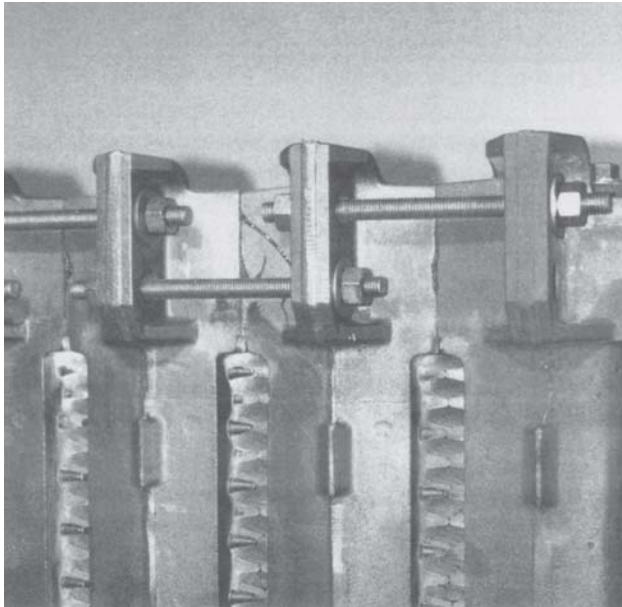

Figure 9: Draw-Up Rods (Alternating Pattern - Manual Draw-up)
- l. The large draw-up rod lugs with dual holes are cast in the four (4) corners of each casting. Starting with the upper holes, install four (4) 5/8” x 9¾” long draw-up rods along with washers and nuts (see Figure 9).